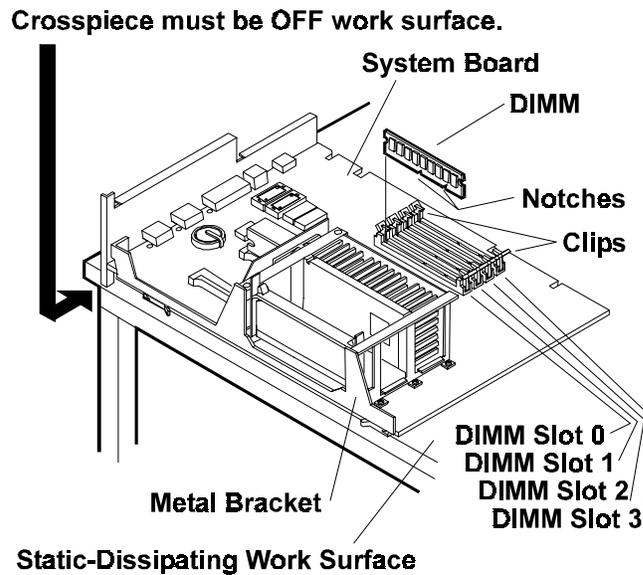

Figure 1-3. Insert the DIMM
Lay the system board component-side up on a static-dissipating work surface with the metal cross piece on the top rear corner of the system board extending off the work surface, as shown in Figure 1-3.
Only install DIMMs on a system board lying flat on a static-dissipating work surface. The metal crosspiece indicated by the arrow in Figure 1-3 must be OFF the work surface. Otherwise, flexing can damage the system board.
2. Locate the socket where you will install the DIMM, and spread outward the two retaining clips shown in Figure 1-3.